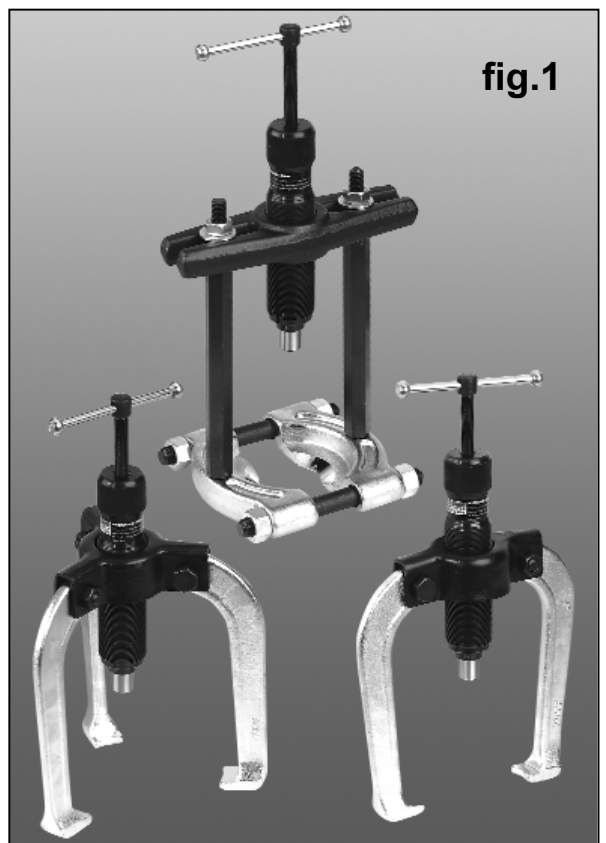

fig.1
- 4.2. Assemble the appropriate puller, see fig.1, and adjust T-handle (Fig. 2.A) so that tommy bar (fig.2.B) is approximately 80mm (3") above top of ram, see fig.2.